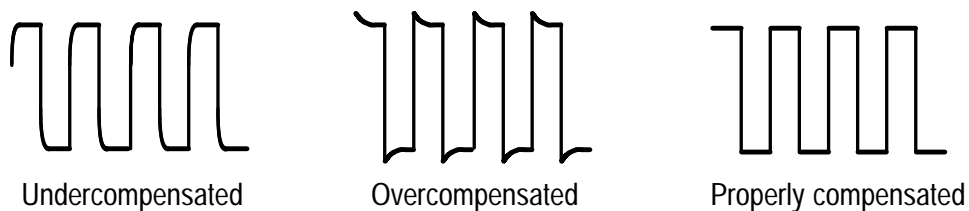

Figure 2: Probe compensation waveforms
3. Adjust the trimmer in the probe (accessible through the compensation box) until you see a perfectly flat-top square wave on the display. See Figure 2.